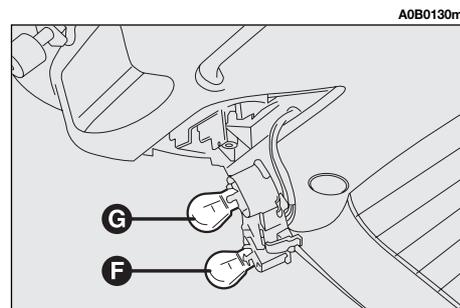

fig. 50
- Remove and replace the bulb concerned (spherical with bayonet coupling) pressing lightly and turning counterclockwise (**fig. 50**):